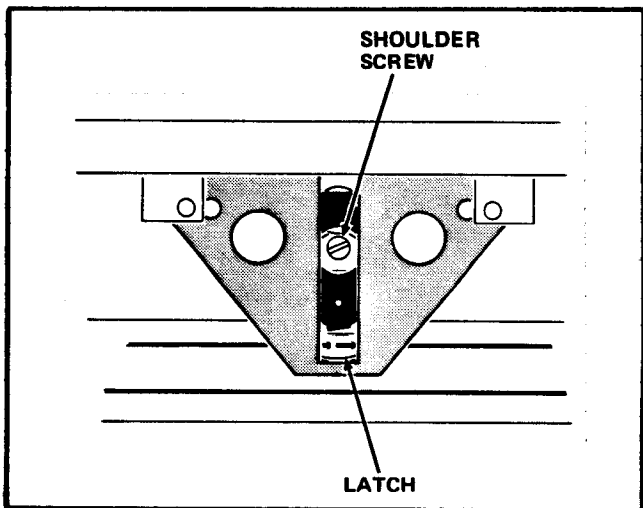

FIGURE 6
13. Remove the Shoulder Screw attaching the Latch to the Bracket and detach the Latch from the Bracket. See Figure 6.